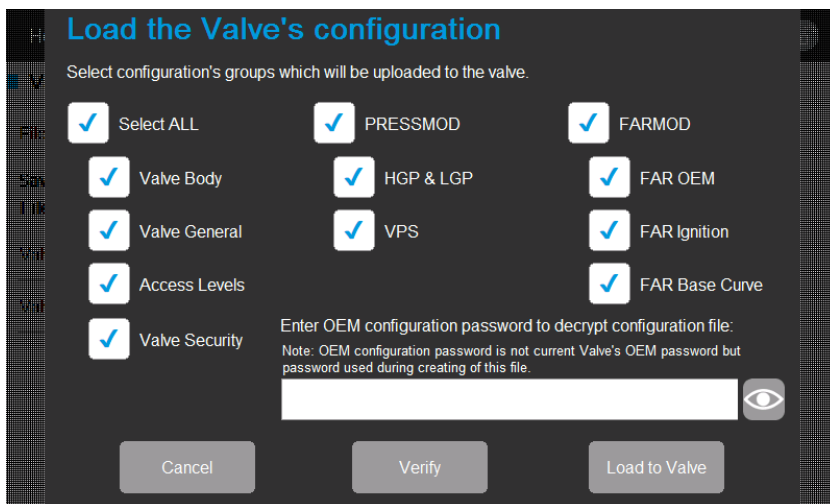

Fig. 116: Valve Production Cloning configuration groups selection, with passwords, 'Valve Security' group selected.
- a. The page look and next steps will depend on whether passwords have not been assigned (Refer to Fig. 116) or have been assigned (Refer to Fig. 117).